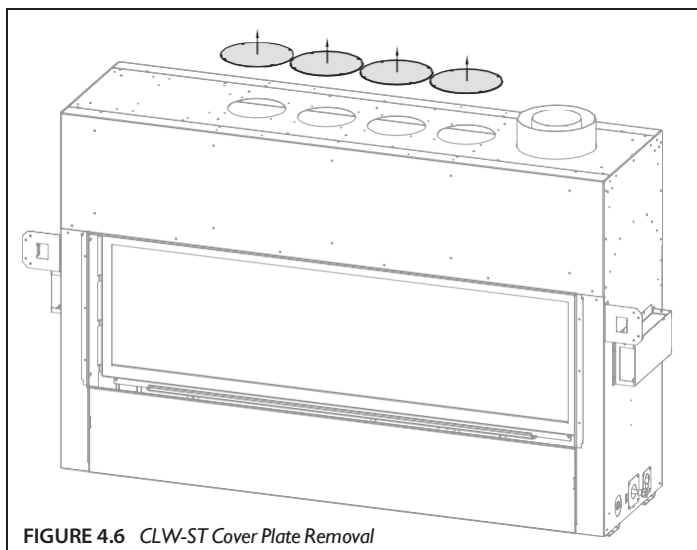

FIGURE 4.6 CLW-ST Cover Plate Removal
CLW-ST: Remove (4) cover plates on top of the appliance (4 screws each). See **FIGURE 4.6**.